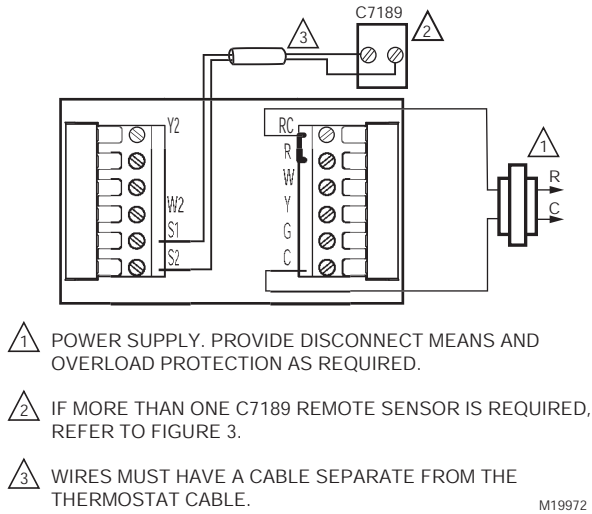

Fig. 28. Wiring a single C7189 Indoor Sensor.
1. Wire C7189 Indoor Sensor to S1 and S2 terminals on the thermostat. For an example of general wiring of C7189, see Fig. 28 to wire one sensor and 29 to wire multiple sensors.